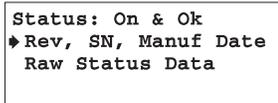

Fig 7-20 Main Intelligence Module Information Screen
**Redundant Intelligence Module** - This menu item opens the redundant intelligence module information screen. It appears and functions the same as figure 7-20.